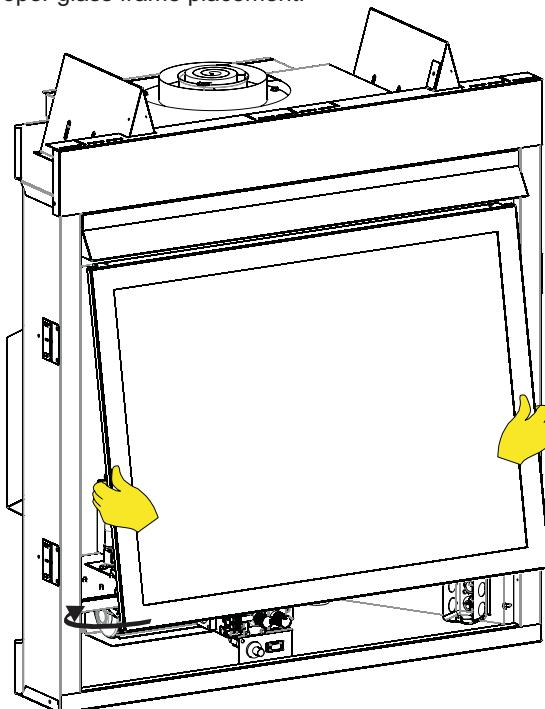

Figure 84
2. Gently lower the glass frame into place. **See Figure 84 for proper glass frame placement.**
- Check all latches or other door retention components for proper operation, tension, and relief mechanisms are free from obstructions. **See Figures 84 and 85.**